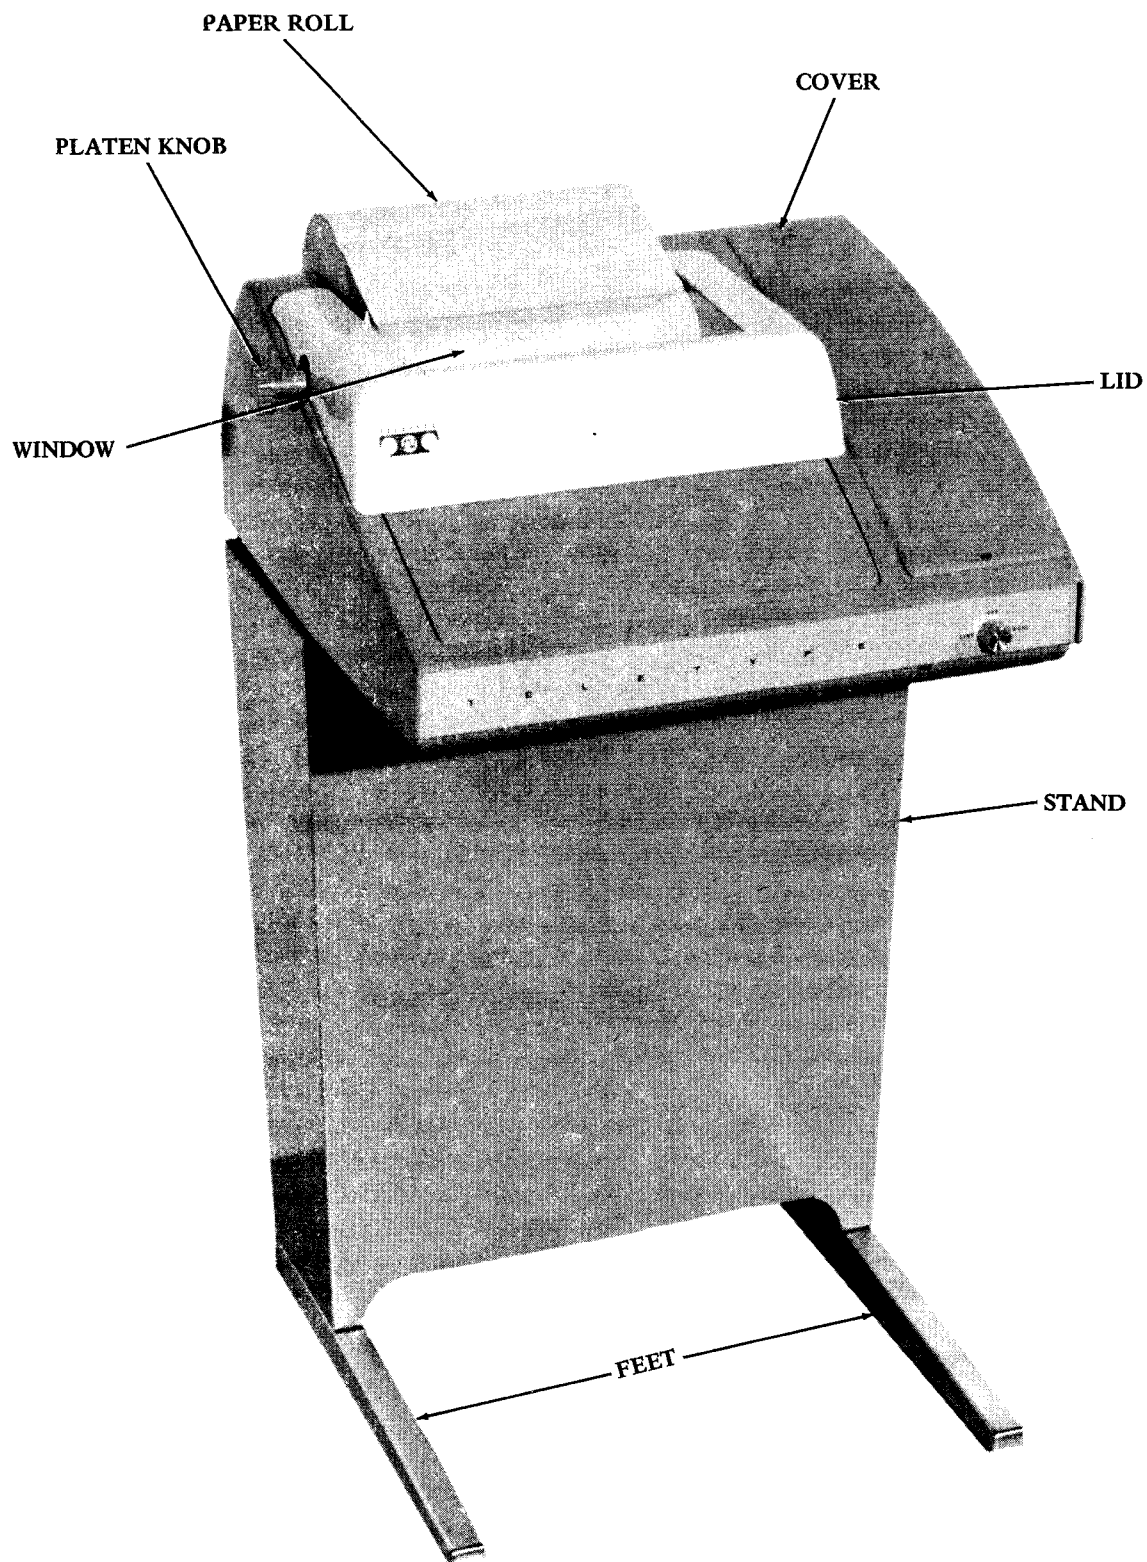

Figure 1 - Model 33 Receive-Only (RO) Teletypewriter Set
### RECEIVE-ONLY (RO) TELETYPEWRITER SET (Figure 1)